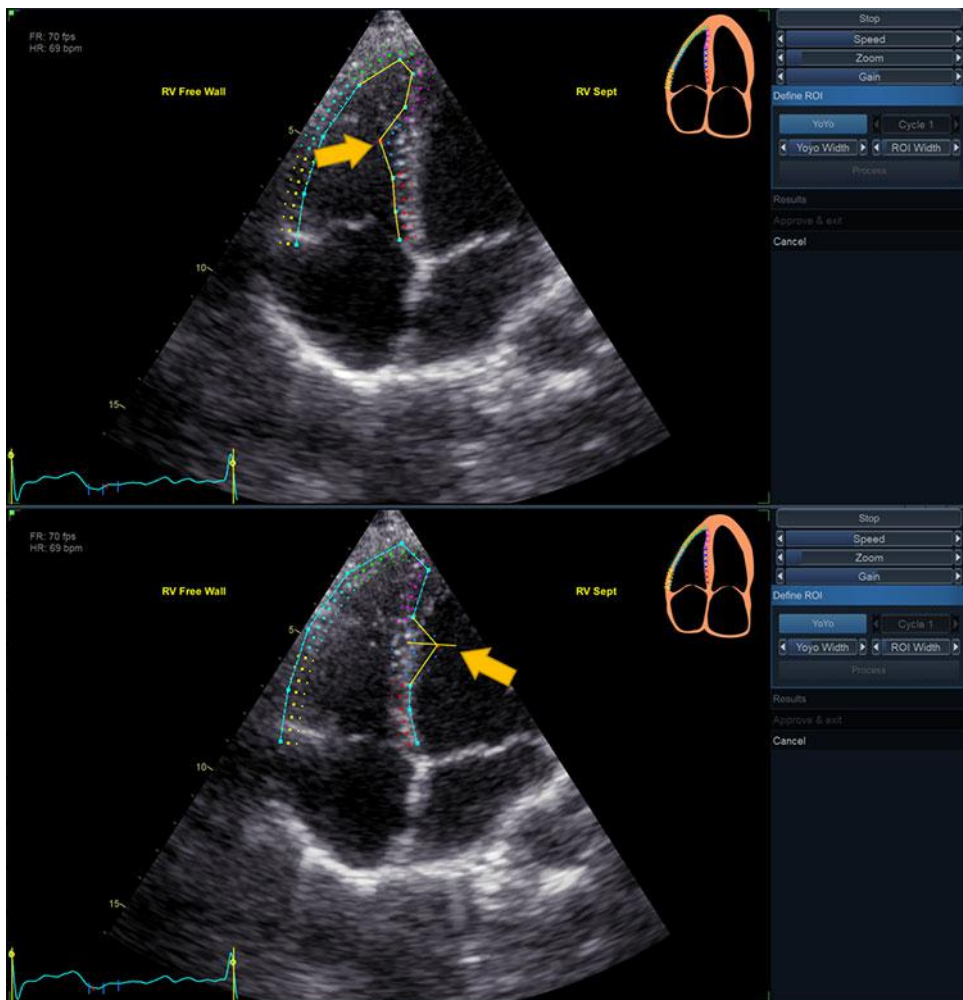

Figure 8-24. ROI Editing Options
- Click-and-drag (or click, move the mouse, click to release) on the endocardial part of the ROI. Endocardial editing edits the whole ROI (Figure 8-24, upper part).
- Click-and-drag (or click, move the mouse, click to release) the anchor points on the epicardial ROI (highlighted in red on mouse hovering). Epicardial editing edits the epicardial part only (Figure 8-24, lower part).